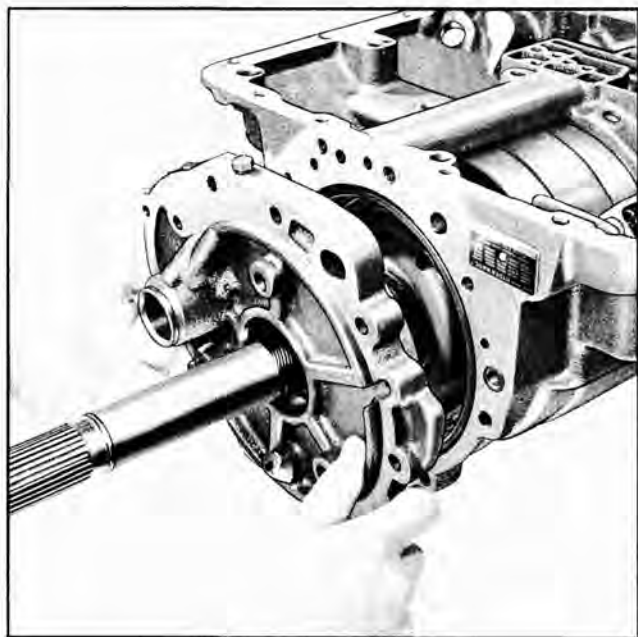
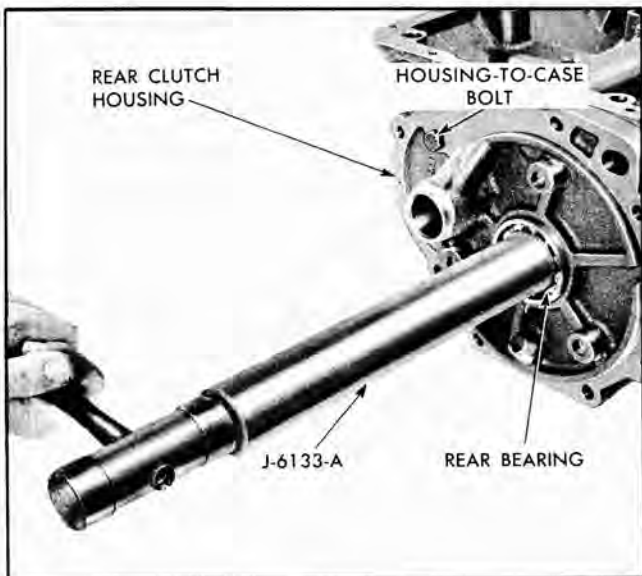
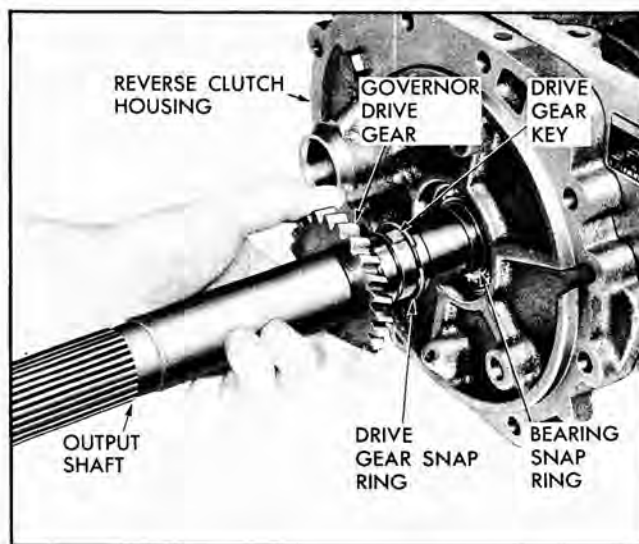

Fig. 153 Installing Reverse Clutch Housing
Fig. 154 Installing Rear Bearing
Fig. 156 Installing Governor Drive Gear
9. Slide housing over end of output shaft (Fig. 153) and secure to transmission case with one bolt as shown in Fig. 154.
bearing installer J-6133-A (Fig. 154) until the snap ring groove on output shaft can be seen behind the rear bearing. If bearing is a slip fit on output shaft, slide snap ring over shaft against bearing, pull shaft rearward and push snap ring into groove (Fig. 156); however, if snap ring will not seat in groove, rotate unit to position output shaft down, then drive snap ring into place with installer J-6133-A.
18. Slide governor drive gear on output shaft, locating slot in gear over key (Fig. 156).